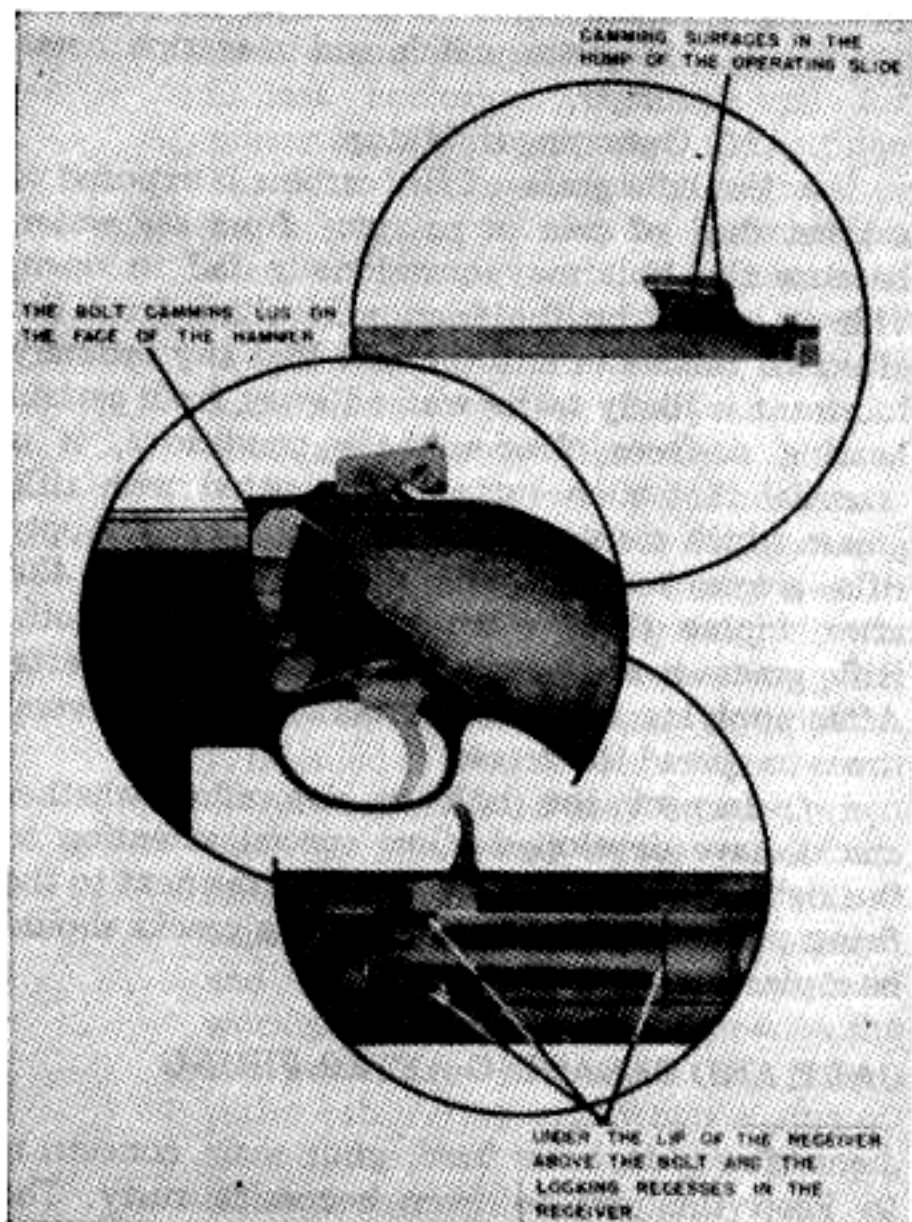

Figure 43b. Points on which to apply rifle grease.
- (3) Cocking cam on rear of bolt and firing pin tang recess.
- (4) Contact surface of barrel and operating slide.
- (5) Operating slide spring guide.
- (6) Operating slide handle grooves on side of the receiver.
- (7) Operating slide grooves in barrel.
- (8) Contacting surface of receiver and operating slide.
- (9) Cammed surfaces in the hump of the operating slide.
- (10) Piston.
- (11) Magazine catch and magazine catch plunger.
- (12) Operating slide stop.
e. Use rifle grease if the carbine is exposed to a great deal of rain or to spray from sea water, because the bolt may occasionally fail to open. This is caused by the friction resulting from the effect of the water and the fact that any ordinary lubricant is likely to be washed away from certain bearing surfaces. Under these conditions, it is essential that such surfaces be coated with rifle grease which resists the action of the water. Apply rifle grease to the parts shown in Figure 43b after wiping them clean and dry with a cloth. Rifle grease is not normally applied to other parts. After applying rifle grease, work the parts several times to spread the grease.
- (2) *Avoid excessive friction.* If the carbine shows signs of excessive friction due to lack of lubrication, apply oil to the parts that need it. If this friction is the result of dirt and there is no time to clean the carbine, use an extra amount of oil in the places needed. Friction is indicated if the empty cartridge cases are being ejected to the right rear or if the action of the bolt is sluggish. Apply oil at the first opportunity, as failure to chamber and eject will occur if the condition is not corrected.
- (3) *Use extra care under severe conditions.* If the carbine is to be exposed to severe conditions of rain or salt water, apply rifle grease. The points on which to apply this grease are shown in Figure 43b.